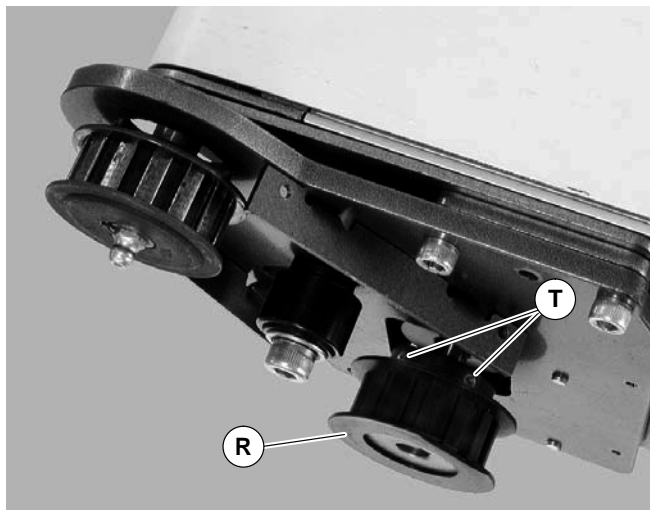

Figure 21
6. Loosen two (2) set screws (T of Figure 21). Remove drive pulley (R).
8. Mount new gearmotor with four screws (X). Tighten to 45 in-lb (5 Nm).
9. Replace drive pulley (R of Figure 21) and tighten set screws (T).